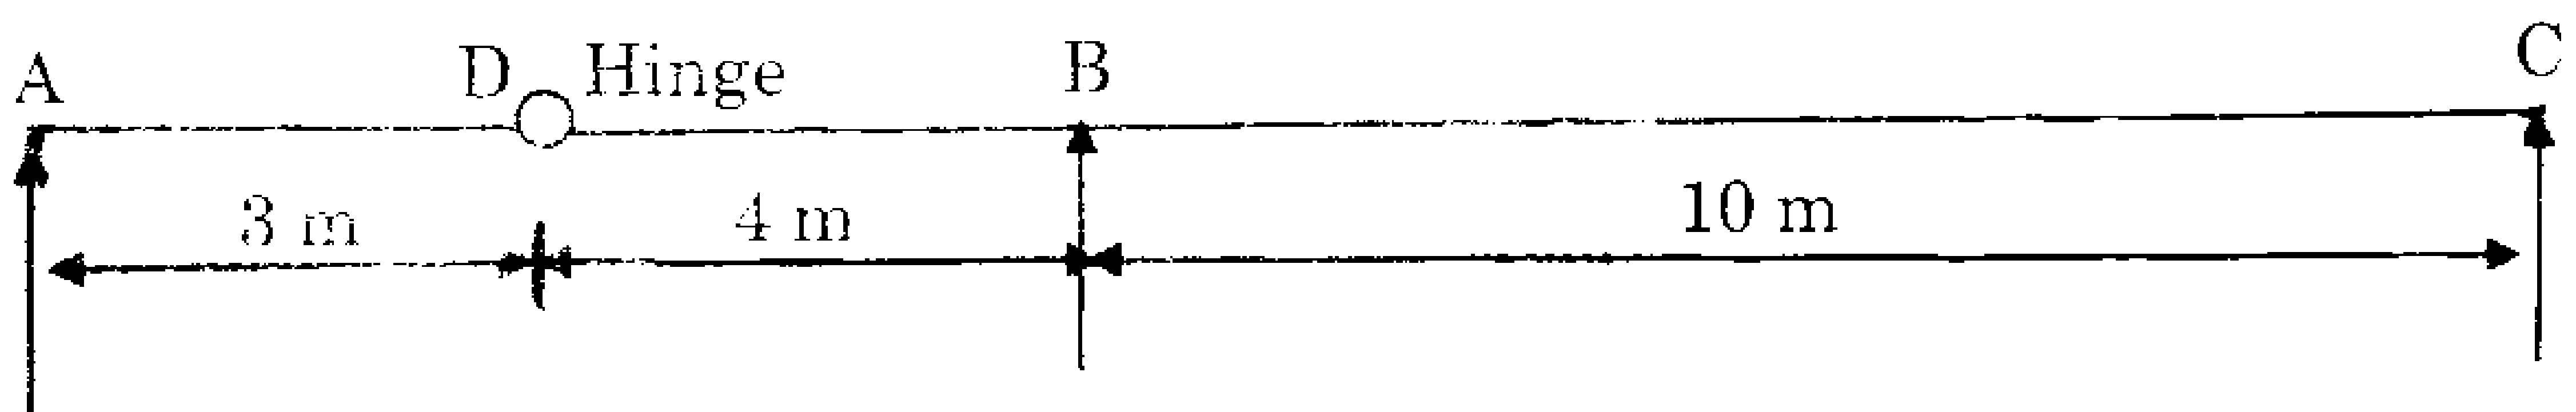

Fig. 2
- (b) For the beam shown in Fig. 2, which is supported on three supports and has a hinge at D distant 3 m from support A. Draw the influence lines for reactions at A, B and C. Also, calculate the maximum reactions which develop at these three supports if a U.D.L. of intensity 2 kN/m of length 3 m travels from left to right. 15